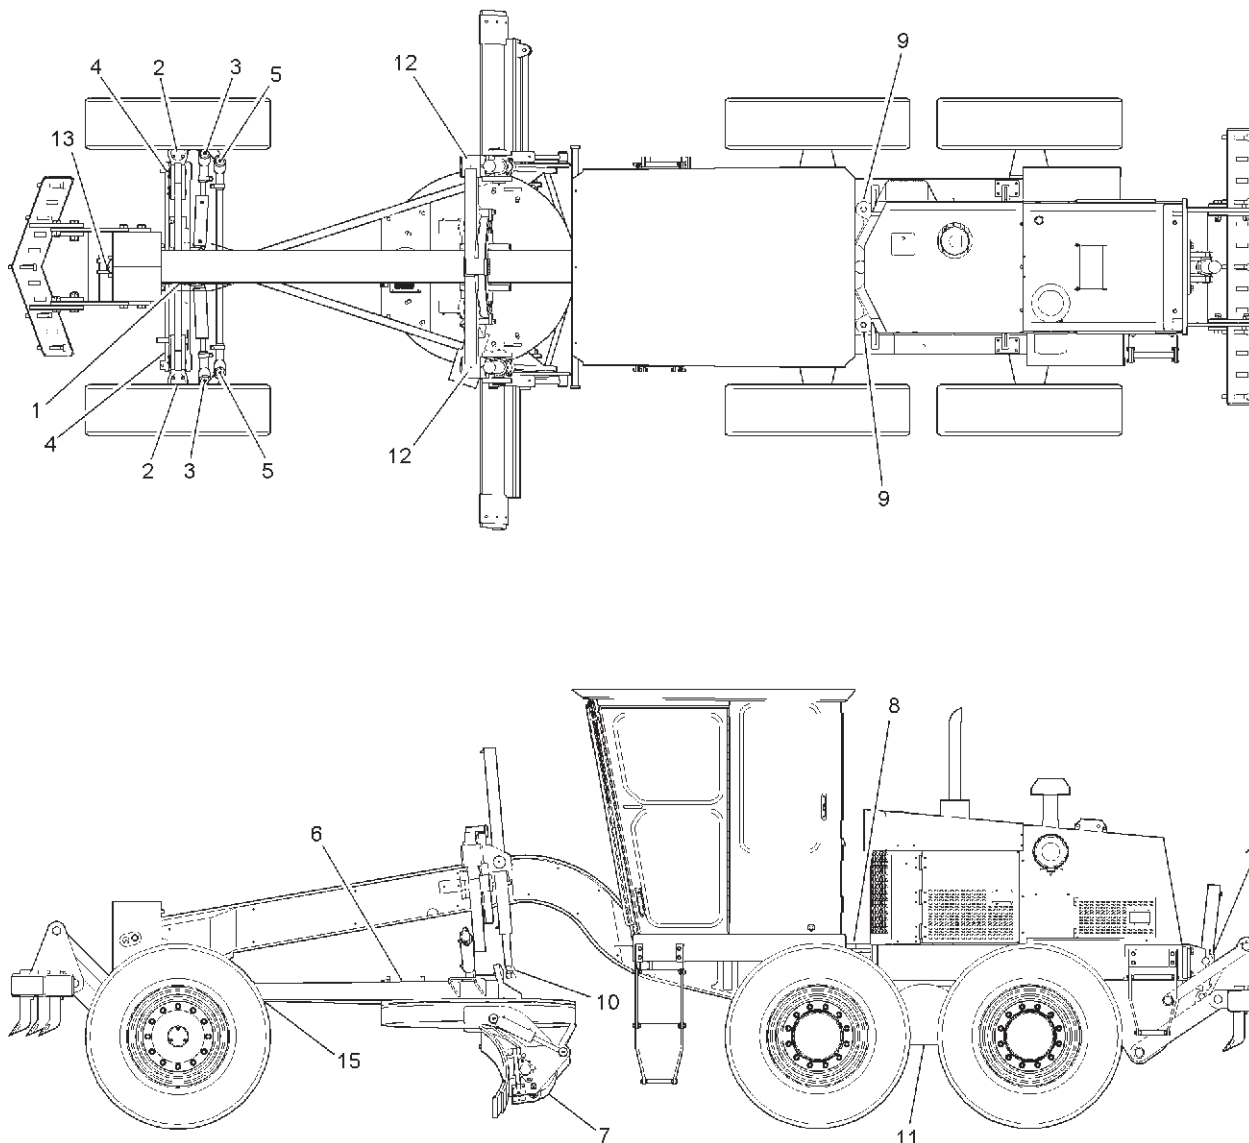

Figure 7-5. . Location of Lubrication Points
4. Lubricate grease fitting (A), Figure 7-5.